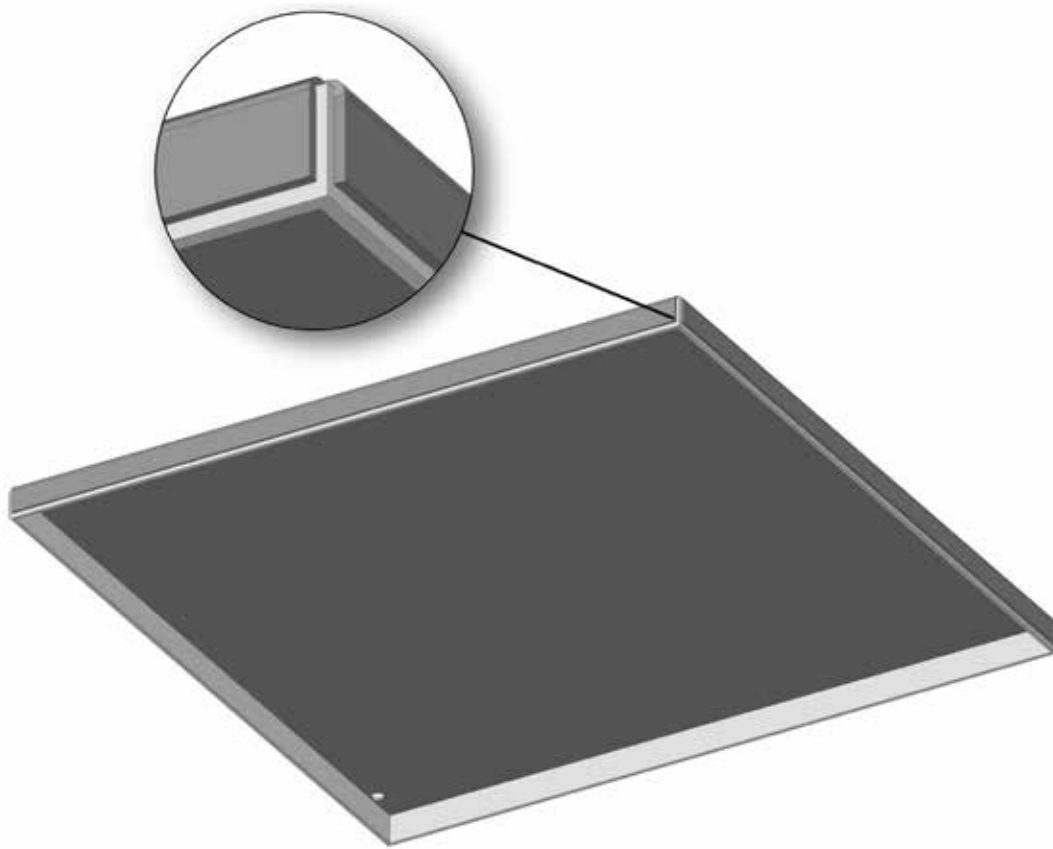

Fig. 22 Seals on bottom plate cover
- For IP X2 or IP 5X degrees of protection, the bottom plate covers (flanges) must be sealed, if this has not already been done by the manufacturer. 15 x 2 mm (GSIN100021P0010) self-adhesive sealing material must be used to seal the bottom plate. This must be applied after cleaning (see below), to the inside bend of the flanges, and must overlap 3 mm over the bend (see fig. 22).